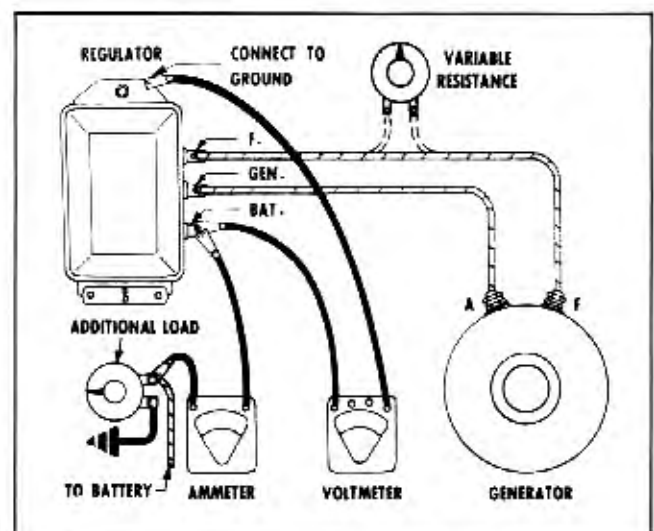

Fig. 12-14 Connections for Checking Current Regulator
1. Connect an ammeter into the charging circuit and connect voltmeter from "BAT" to ground (Fig. 12-14).